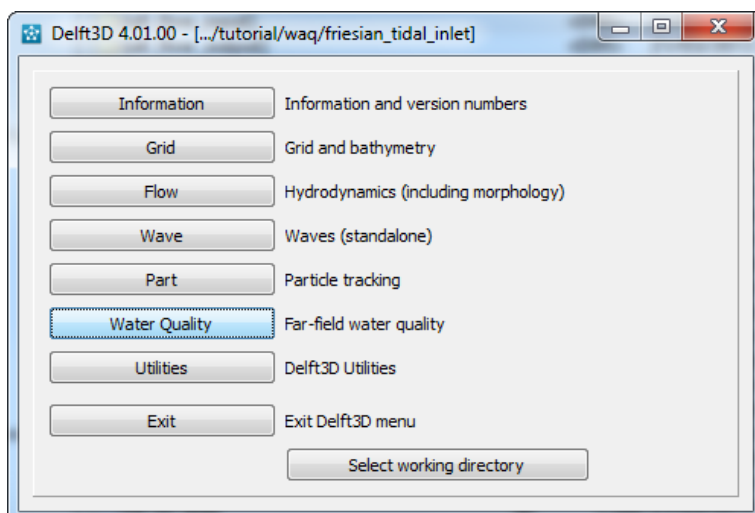

Figure 3.2: Main window *Delft3D-MENU*
After a short while the main window of the Delft3D-MENU appears, Figure 3-2.
- ◇ Select *Water Quality* in the main window, see Figure 3.2.